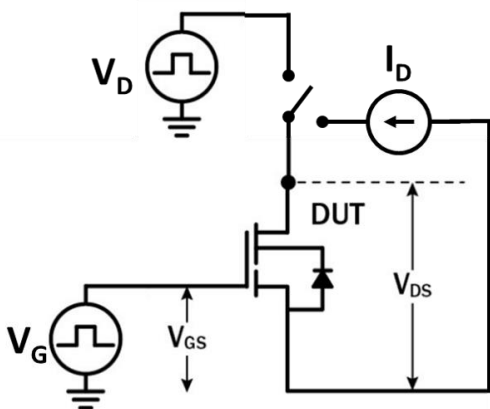

Figure 18. Dynamic RDS(on)eff Test Circuit
- a. Dynamic  $R_{DS(on)}$  value; see Figures 18 and 19 for conditions